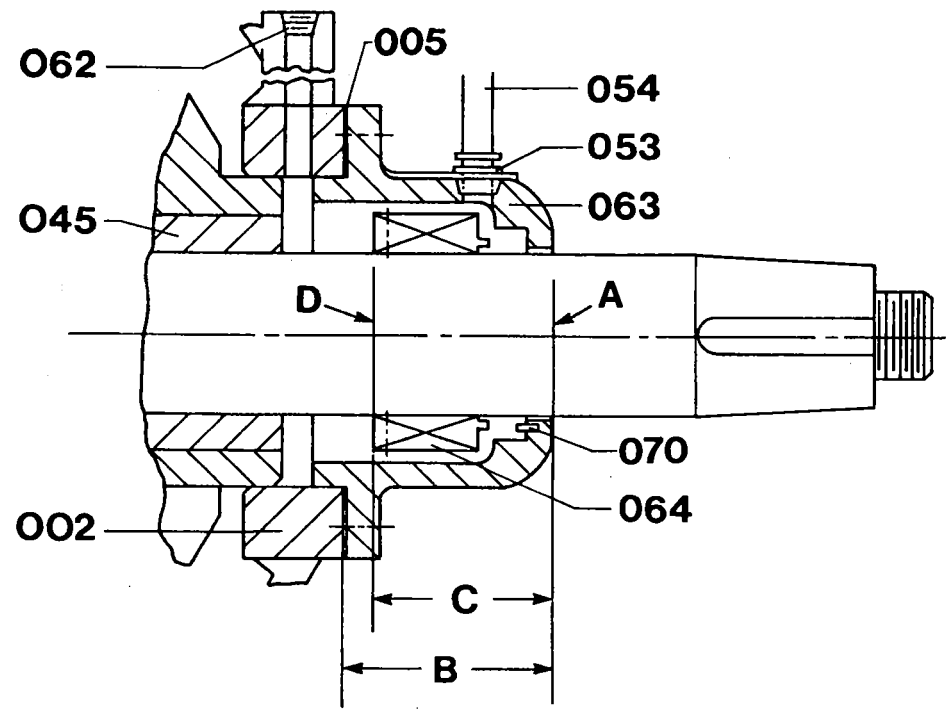

FIGURE 3. Position Setting of Seal Rotating Assembly (Crane 9, 9M and Borg-Warner QW)
CRANE TYPE 9 and 9M and BORG-WARNER TYPE QW. The rotating assembly of the 9, 9M or QW mechanical seal is installed on the pump power rotor (034), with setscrews, in a non-compressed or free length condition. When the seal housing (063) is installed, with mechanical seal stationary parts, the seal is compressed to its correct working length only if the seal rotating assembly is correctly positioned when it is installed. To determine correct seal rotating assembly installed position, proceed as follows: (Refer to Figure 3 unless otherwise noted.)
Start at position "A" and measure distance "C" to determine position "D." Using a scribe, mark the power rotor at position "D." Mechanical seal (064) rotating assembly (3, Figures 6 or 7) is correctly installed when the rear of retainer (3E, Figure 6) or spring holder (3D, Figure 7) is installed at position "D" of Figure 3.
Wipe power rotor shaft with lubricating oil and slide rotating assembly (3, Figure 6 or 7) on power rotor until the back of retainer (3E, Figure 6) or spring holder (3D, Figure 7) is at position "D" of Figure 3.
Retaining clips (4, Figure 6) are normally installed on new Crane Type 9 and 9M mechanical seals. The retaining clips evenly compress springs (3G, Figure 6) to remove compression on chemlon wedge (3C, Figure 6), allowing more freedom of movement when sliding rotating assembly (3, Figure 6). The retaining clips must be removed and discarded prior to final assembly, but only when identified in this procedure. The retaining clips are not to be used as a measuring point when aligning retainer with position "D" of Figure 3.
Slide rotating assembly (3, Figure 6 or 7) on power rotor, being careful not to cut or damage seal as it slides on power rotor. Position back of retainer (3E, Figure 6) or spring holder (3D, Figure 7) at position D of Figure 3. Do Not push on face of primary ring (3B, Figure 6) or rotating face (3A, Figure 7) when sliding rotating assembly on power rotor.